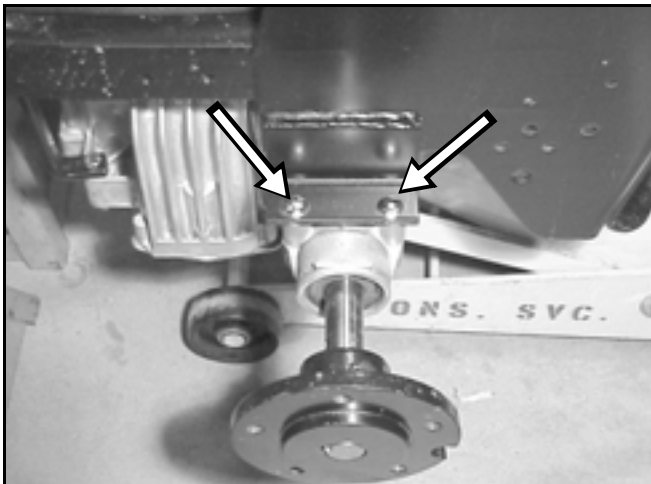

Figure 128
13. Remove the two nuts and washers that are located on each side of the transaxle axle housing holding the transaxle to the frame (Figure 128).